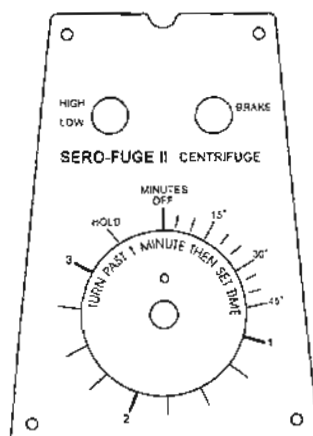

Figure 1-5. Nameplate.
(2) A nameplate (located on the front of the base assembly) containing operating control information is depicted in figure 1-5.